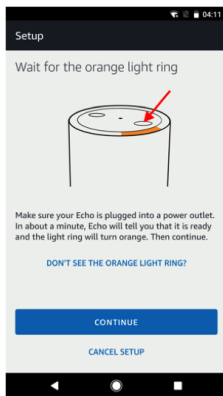

fig.9
- Hold down the dot button on the top of your Echo device until the orange light shows up (fig.9), and then tap “CONTINUE”. When your device is connected to Echo, tap “CONTINUE” (fig.10-11)